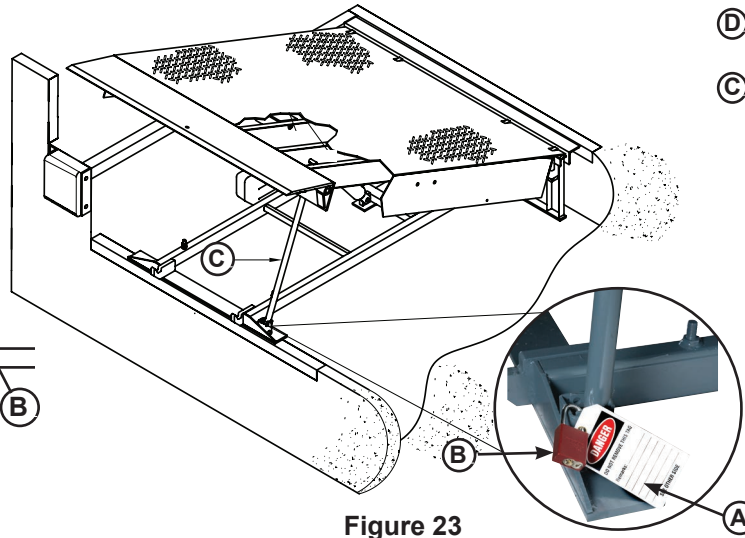

Figure 23
Whenever maintenance is to be performed under the dock leveler platform, support the platform with maintenance prop (C). Position the maintenance prop behind front header plate (D) while staying clear of the lip. The lip will fold down after the platform has rested on the maintenance prop. Lock the maintenance prop in the service (upright) position using an OSHA approved lockout device* (B) and tag out device* (A). See Figures 23 and 24.